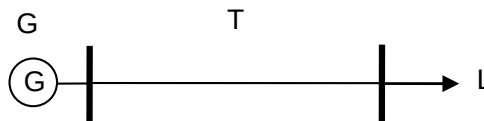

Figure 1: Single line diagram of 3-phase balanced system
2. The single line diagram of a 50 Hz 3-phase balanced system is shown in Fig.1. The generator (G) delivers power to a load (L) through a transmission line (T). The load is Δ -connected with a phase impedance $Z_\phi = 6\angle 36^\circ$. The transmission line impedance is $0.04 + j0.2 \Omega$ and the generator voltage is 380V.